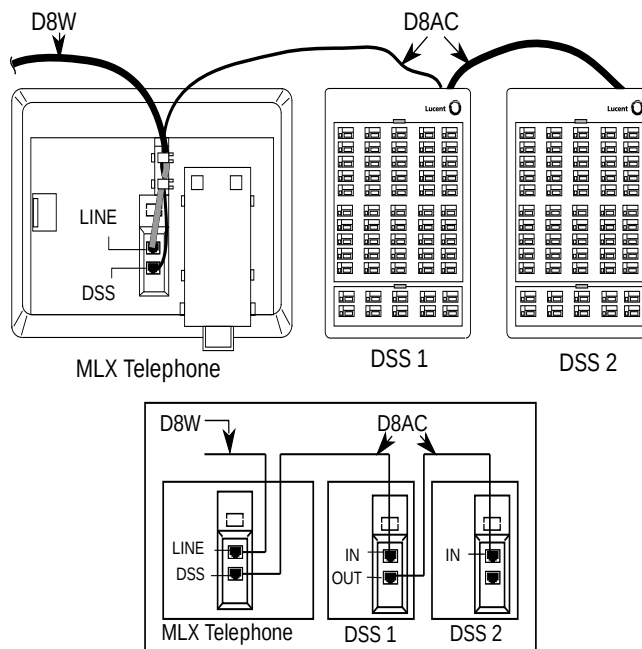

Figure 3-28. Connecting One or More DSSs
► **3. Wire the two DSSs. See Figure 3-28.**
► **4. Wire the telephone to the DSS unit(s). See Figure 3-28.**